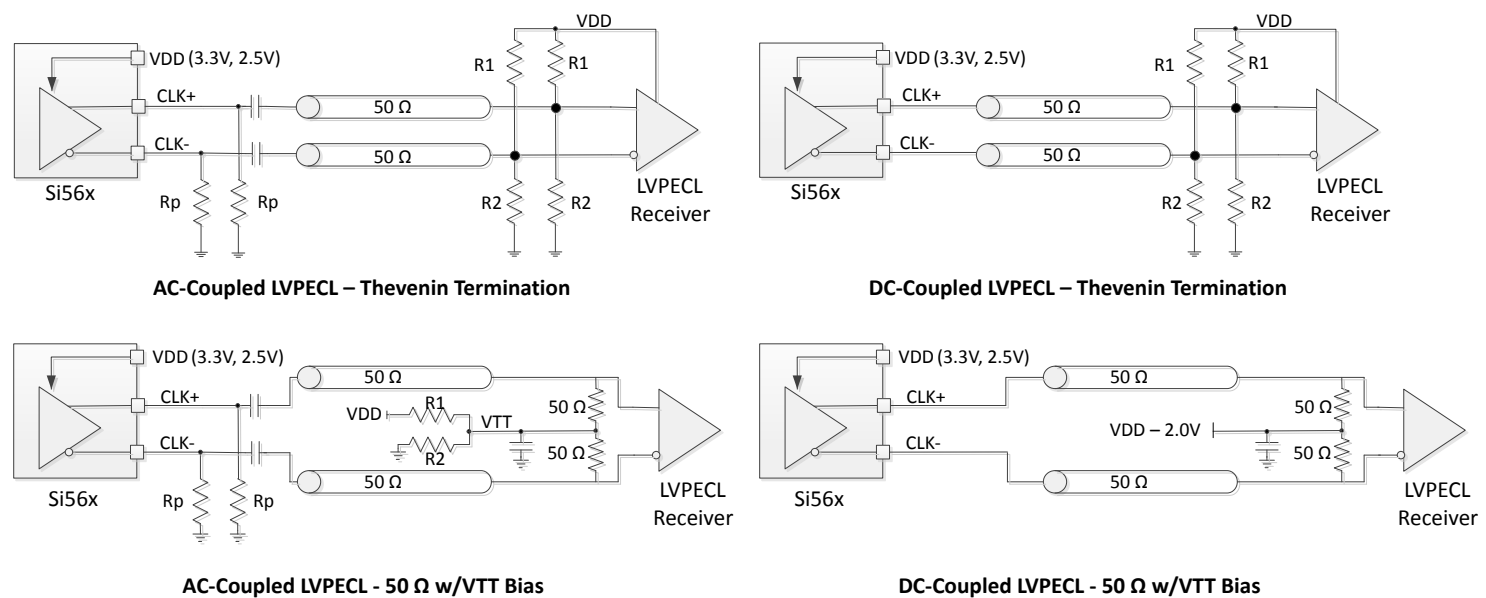

Figure 4.1. LVPECL Output Terminations
3. Rterm = 50 Ω to VDD – 2.0 V (see Figure 4.1). Additional DC current from the output driver will flow through the 50 Ω resistors, resulting in a shift in common mode voltage. The measurements in this table have accounted for this.